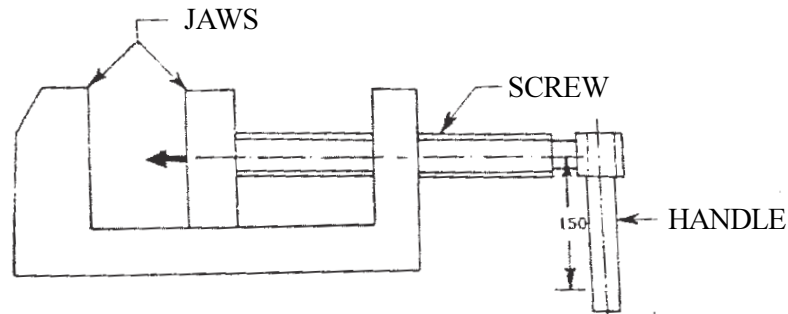

Figure 2 Machine vice
- b) A machine vice as shown in Figure 2 has single start, square threads with 22 mm nominal diameter and 5mm pitch. The outer and inner diameters of the friction collar are 55 and 45 mm respectively. The coefficient of friction for thread and collar are 0.15 and 0.17 respectively. The machinist can comfortably exert a force of 125 N on the handle at a mean radius of 150 mm. Assuming uniform wear for the collar, calculate: **[10]**